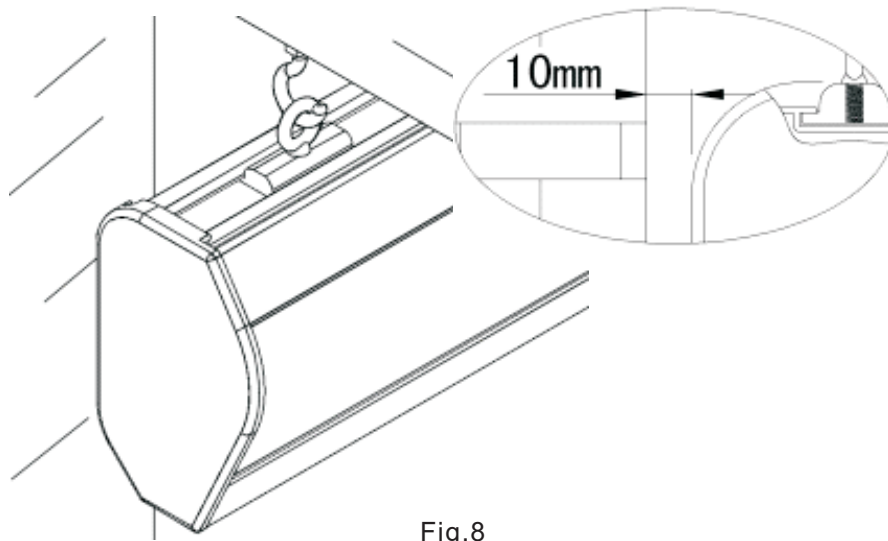

Fig.8
3. It is about 10mm between the screen casing and wall after finishing ceiling installation as Fig 8.